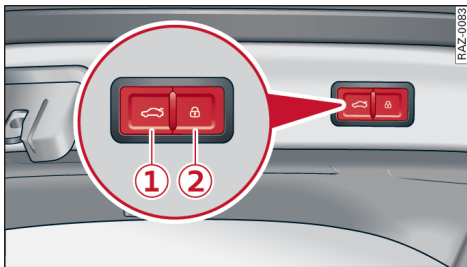

Fig. 29 Boot lid: ① close button*, ② lock button* (vehicles with convenience key*)
- You press button ⇒ page 42, Fig. 29 or the release catch on the boot lid ⇒ page 41, Fig. 27 again, or
If you now press button ⇒ page 42, Fig. 29 or the release catch on the boot lid ⇒ page 41, Fig. 27 again, the boot lid will close/open again.